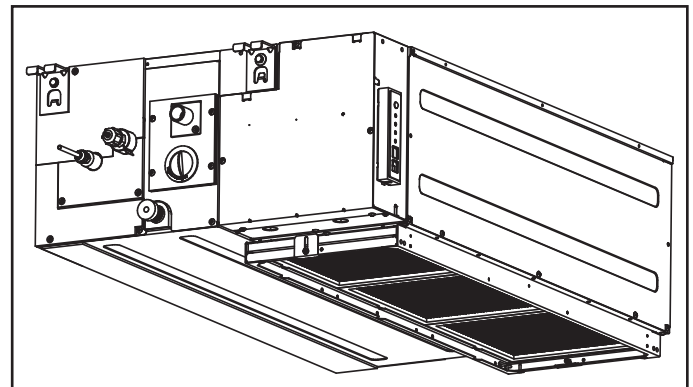

**Figure 12. Re-install Filter Frame and Return Air Cover Plate**
5. Use the existing screws to re-install the return air filter frame on the bottom of the unit. See figure 12.